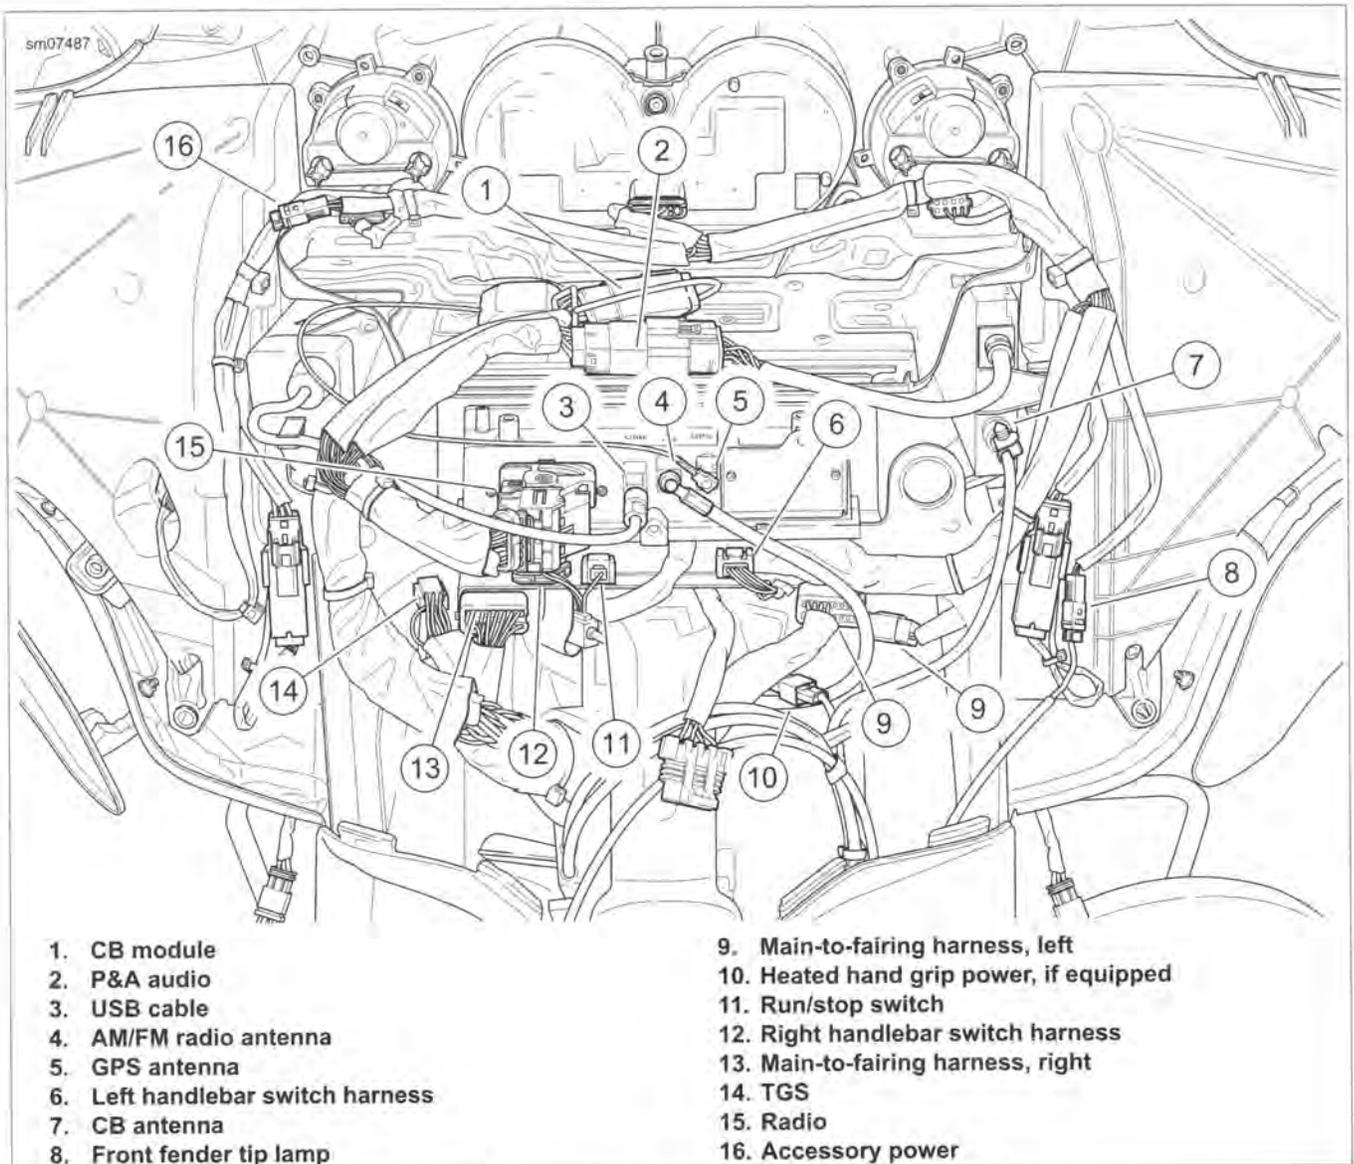

Figure 2-141. Inner Fairing Harness Connectors
2. See Figure 2-141. Separate connectors (1-15).
5. See Figure 2-141. Mate connectors (1-15).